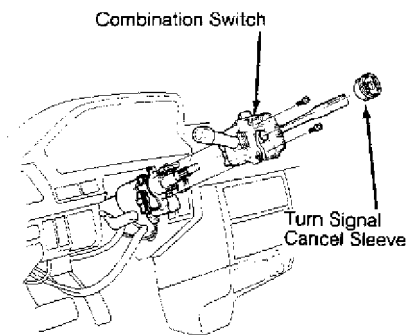

Fig. 4: Removing Turn Signal Cancel Sleeve & Combination Switch (Typical)
3) Remove air bag assembly from steering wheel. See **STEERING WHEEL & HORN PAD**. Disconnect connectors from horn and cruise control switches. Remove steering wheel nut. Mark steering wheel position to shaft and remove steering wheel. Remove upper and lower column covers. Disconnect combination switch connectors. Remove canceling sleeve, cable reel and combination switch. See Fig. 4.